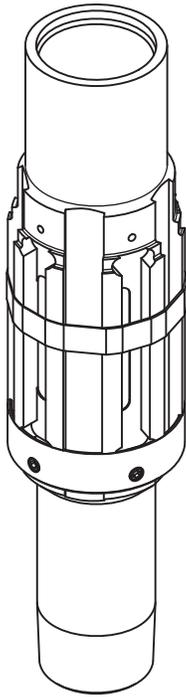

Figure 6
- 2.) Flip the anchor body over (box end up) and wrap a heavy-duty elastic band around the mid-section (Fig. 6).